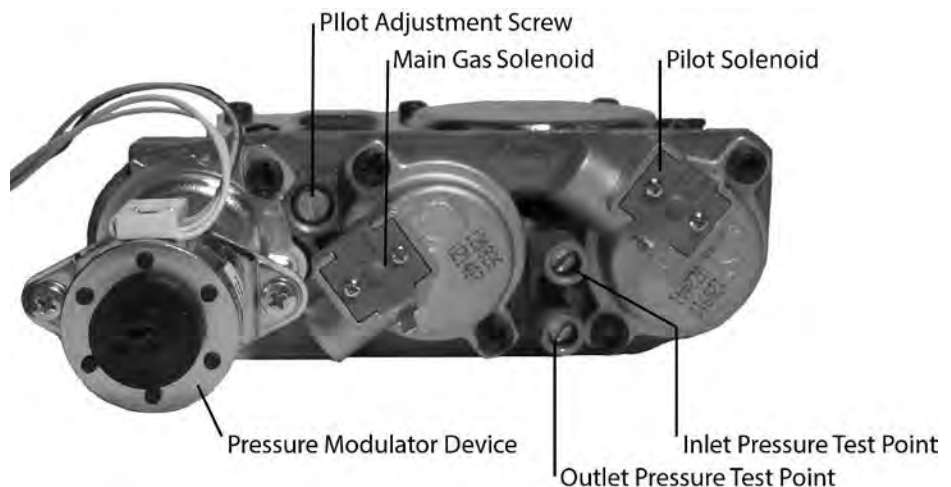

Figure 33: Valve
2. Locate the inlet and outlet test ports on the valve which can be seen in Figure 33. After locating test ports loosen the screws within the ports using a flat-tip screwdriver.
The pilot flame level can be adjusted by turning the adjustment screw, using a flat-tip screwdriver, seen on the valve in Figure 33.